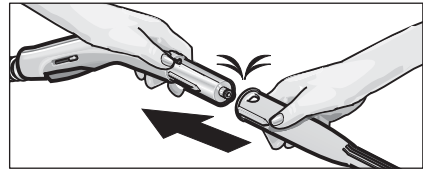

Figure 1: Attaching accessory to the steam gun
- Connect the desired accessory part (C1, D1) with the steam gun (B1). Put the tubular end of the accessory part on the steam gun (B1). Then, push the accessory part onto the steam gun until the unlocking button (B3) of the steam gun locks into place (see Figure 1).